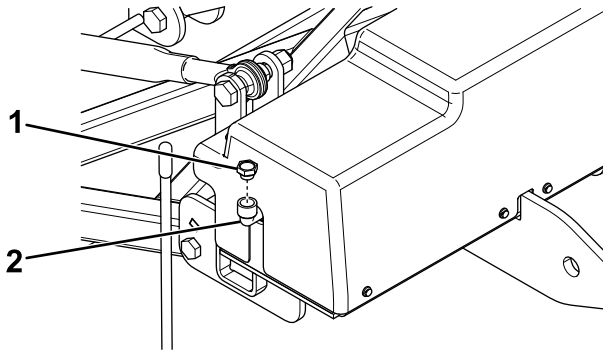

Figure 30
2. Clean the area around the fill cap (Figure 30).
3. Remove the fill cap from the hydraulic reservoir (Figure 30).
4. Slowly fill the reservoir with BOSS high-performance hydraulic fluid to the bottom of the fill elbow (Figure 30).